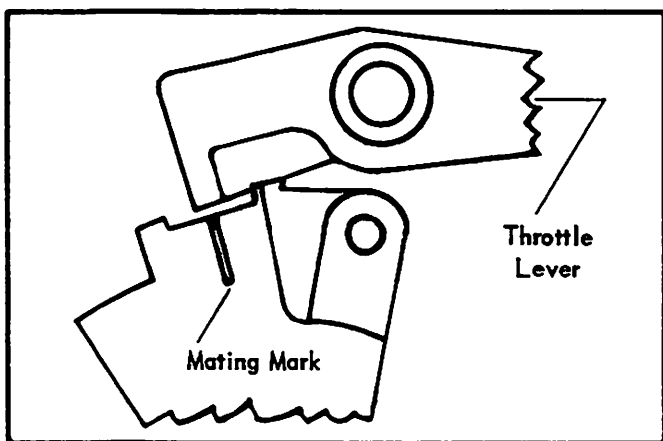
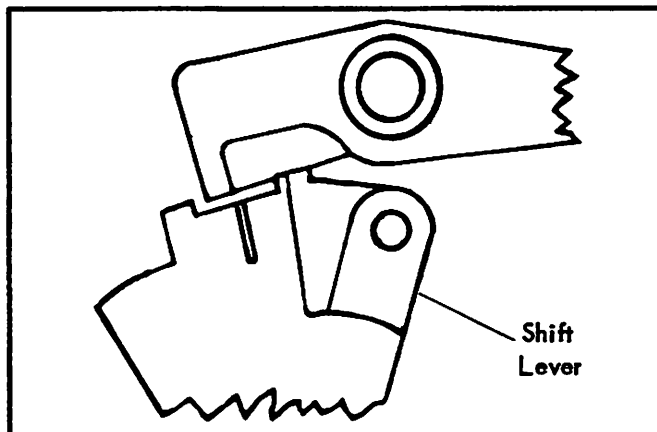

Figure 10. Lever Positions
Figure 11. Lever Positions
4. Shift back into neutral and check to see that throttle lever and shift lever are in position as shown in Figure 10. Disengage cable end and readjust brass barrel of throttle cable, if necessary, to be sure that mating mark on shift lever is to the right of indicating portion of throttle control lever, as shown in Figure 11. This will assure that engine is in neutral when control handle of remote control is in its detent position (neutral).